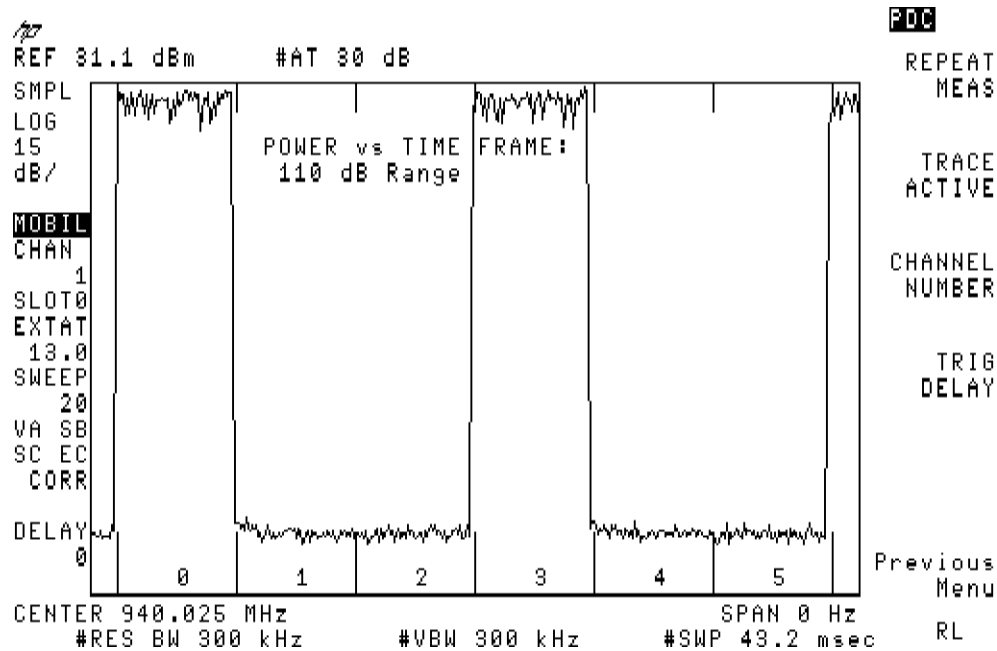
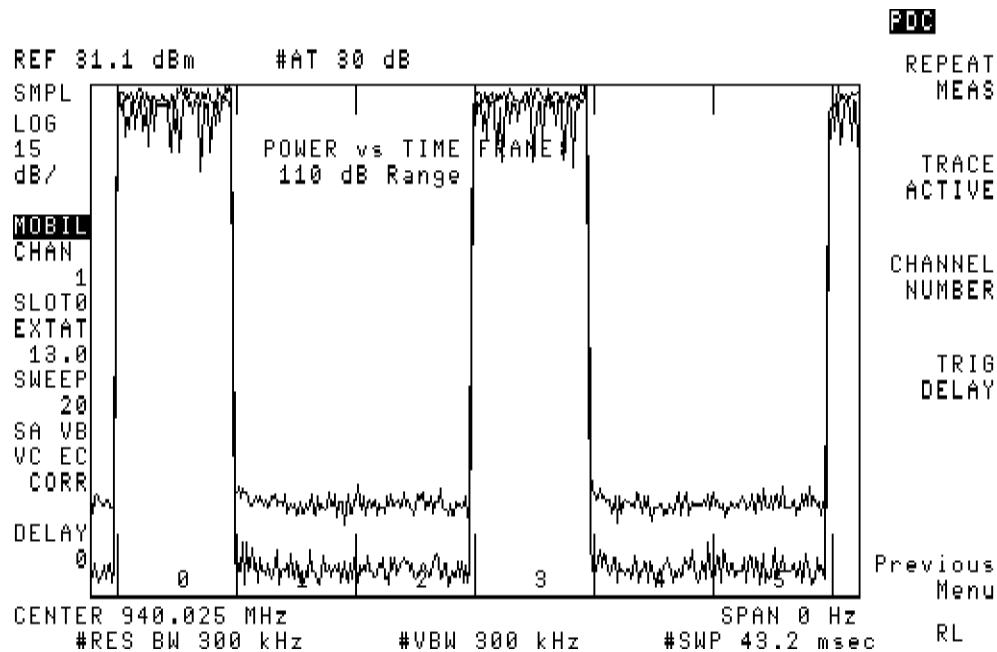

Figure 2-9. Measuring the Average of 20 Bursts
Figure 2-10. Measuring the Maximum and Minimum Peaks of 20 Bursts
5. If you want to obtain a trace that is an average of the trace data over the number of sweeps, press **MEASURE AVG PKS** until **AVG** is underlined (see Figure 2-9). If you want to obtain a trace containing the maximum trace peaks and a trace containing the minimum trace peaks (over the number of sweeps), press **MEASURE AVG PKS** until **PKS** is underlined (see Figure 2-10). Averaging (**MEASURE AVG PKS** is set to **AVG**) applies only if the number of sweeps is set to more than 1. The default for this function is average (**AVG**).
See Figure 2-9 for an example of the trace results of averaging 20 bursts. See Figure 2-10 for an example of the trace results of the maximum and minimum peaks of 20 bursts. After the measurement has been completed, the number of sweeps used for the measurement is displayed on the left side of the spectrum analyzer display.